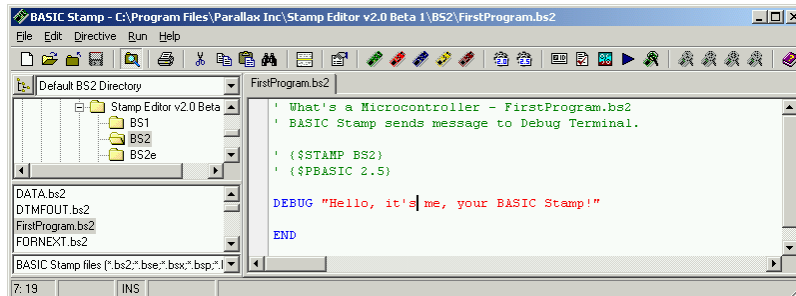

Figure 1-36
- ✓ Type this program into the BASIC Stamp Editor as shown in Figure 1-36.